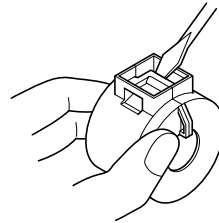

Fig. 3-1
- The ferrite cores are packed so they are open, as shown in Fig. 3-2. If you find that a ferrite core is not open, use a pointed object to pry the plastic lock of the ferrite core apart (Fig. 3-1). When you do, take care not to damage the ferrite core or the plastic lock.